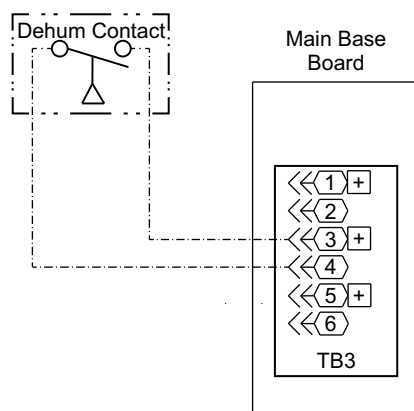

Fig. 61 — Humidistat Connections to MBB (3-Stage SystemVu Units)
6. For 3-Stage SystemVu controller units connect one of the leads from the 2-conductor cable to the TB3 terminal 3 on the MBB (Main Base Board). Connect the other lead to the TB3 terminal 4 on the MBB. See Fig. 61.